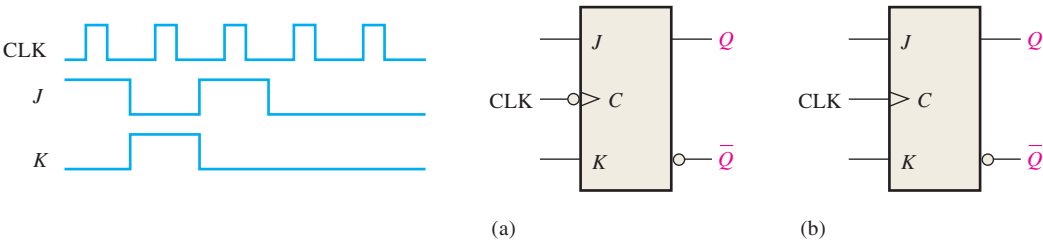

FIGURE 7-77
8. Two edge-triggered J-K flip-flops are shown in Figure 7-77. If the inputs are as shown, draw the Q output of each flip-flop relative to the clock, and explain the difference between the two. The flip-flops are initially RESET.